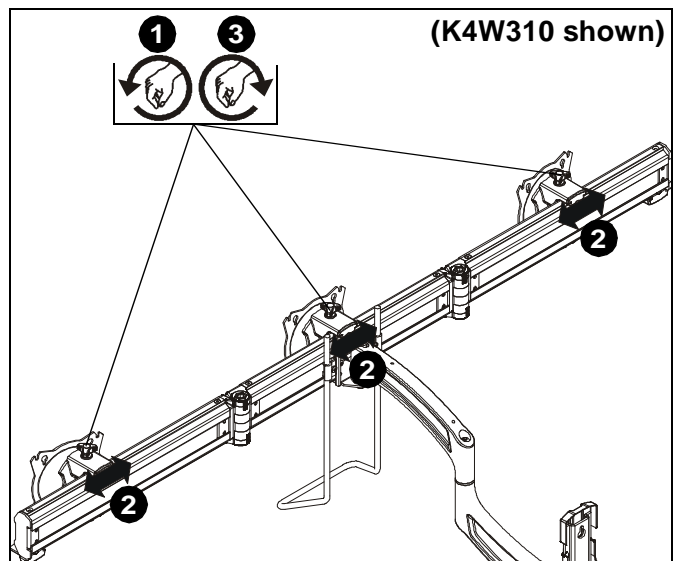

Figure 27
1. Loosen knob on top of faceplate assembly until faceplate can slide freely along array. (See Figure 27)
2. Adjust lateral position as desired. (See Figure 27)
3. Tighten knob to secure lateral position. (See Figure 27)